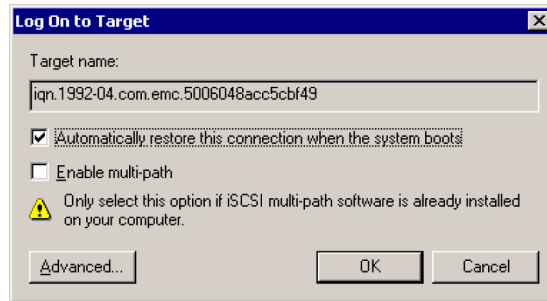

Figure 4-6 Log On To Target Window
3. In the **Log On to Target** window (Figure 4-6), check the **Automatically restore this connection when system boots**. This will assign this particular target as persistent target.